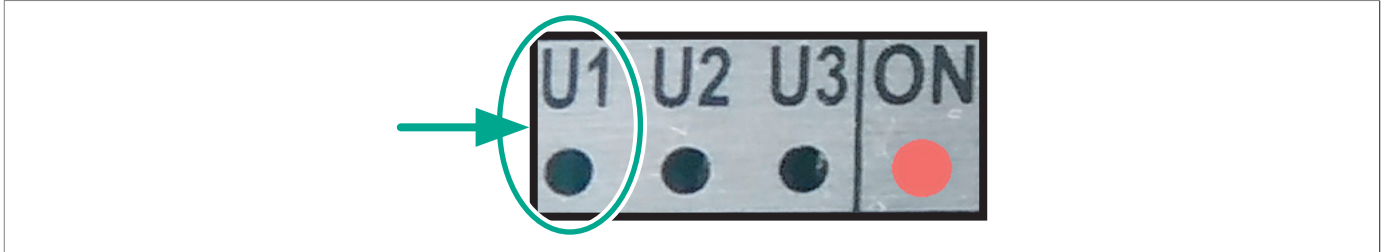

Fig. 5.12. Power LED
2. Restart the RTU with the reset button. The U1 LED (Fig. 5.12) remains on with a steady light throughout the update phase.